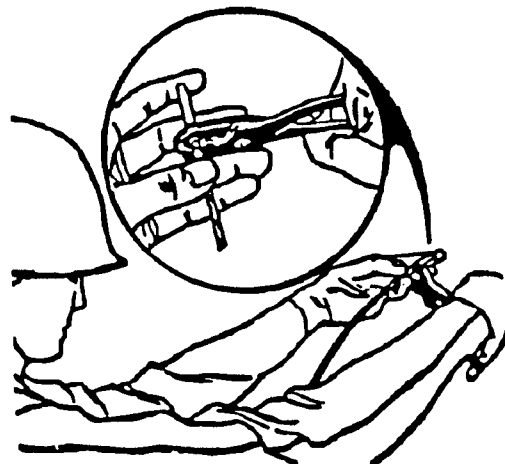

Figure A-15. Example of proper way to crimp a blasting cap.
Step 8. Crimp the blasting cap at a point 1/8 to 1/4 inch from the open end (Figure A-15). Point the cap out and away from the body during crimping.